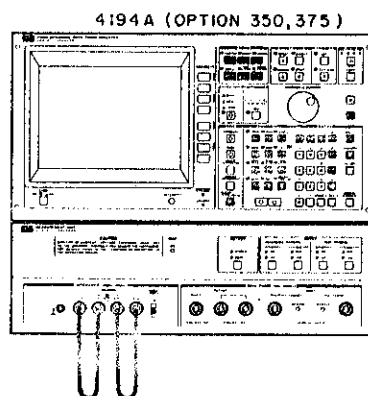

Figure 4-35. Impedance Measurement Level Monitor Stability Test Setup
1. Set up the 4194A as shown in Figure 4-35.